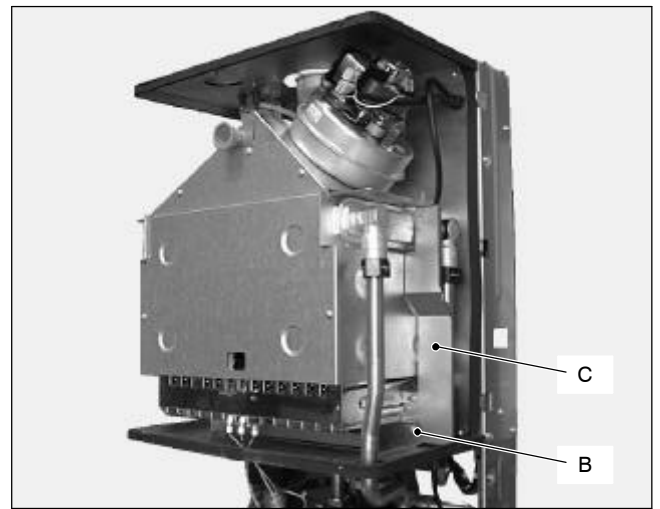

Fig. 78
- 3b For models M90D.28S and M90D.28SR, remove also the plate C (see Fig. 78 on page 39).
- 1b For models M90D.28S and M90D.28SR, remove the screw *B* and the plate *C* (Fig. 78).